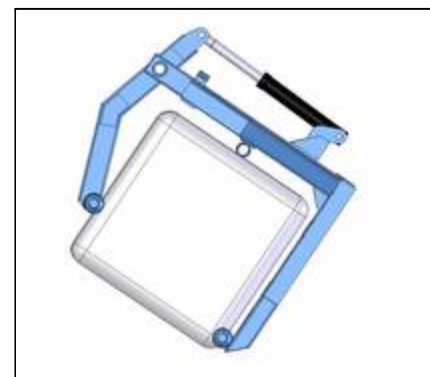

Figure 4 Correct transport position of the bale
- Tilt the stacker upwards so the bale is resting on the stacker body in transport. The correct transport position is shown in Figure 4.